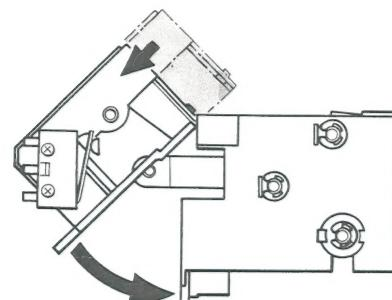

Fig. 20
5) Insert the mechanism frame from above as shown in the illustration, and temporarily secure it. (See figure 20)